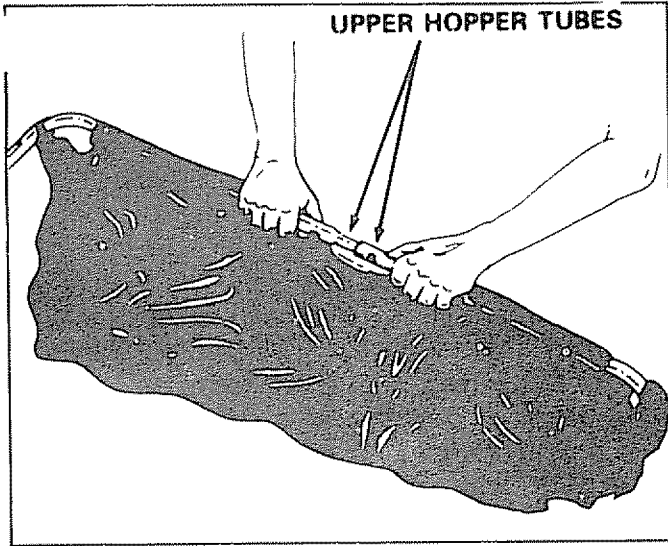

FIGURE 12
- Slide the two upper tubes together, as shown in figure 12. Line up the center holes.